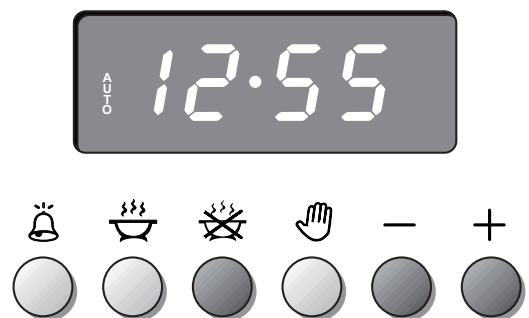

Figure 20
2. Set the end of the cooking time by pressing the  button (the cooking time already added to the clock time will appear), and the  button (fig. 20); if you pass the desired time you may get back by pushing the  button.